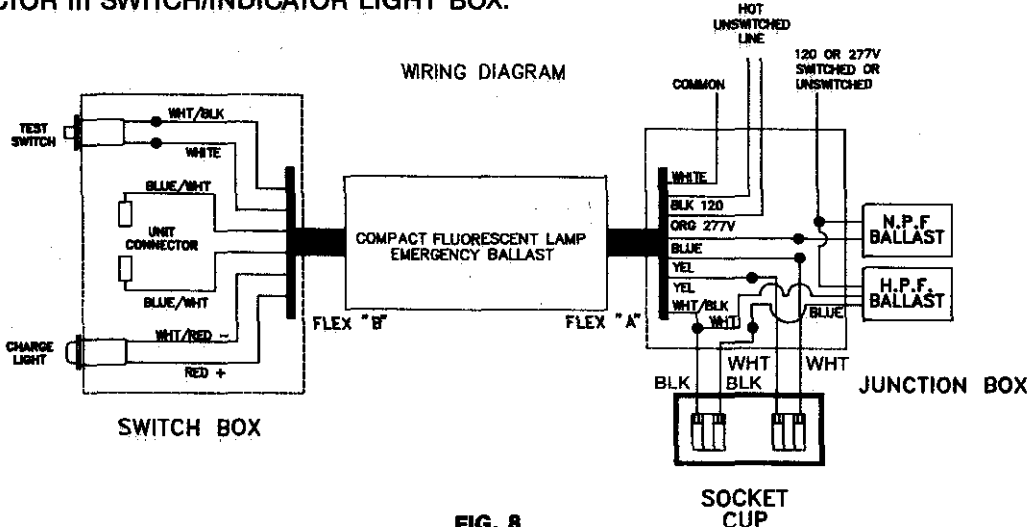

FIG. 8
4. This fixture is prewired for 120V or 277V. Check marking on fixture before making connections in Junction Box. See wiring diagram (Fig. 8).